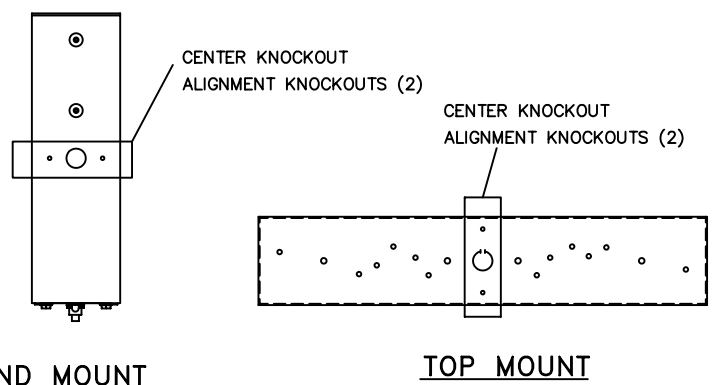

FIGURE 3
4. Remove appropriate knockouts for top or end mounting. (See Figure 3)
5. Mount canopy to exit frame using #6 alignment screws (2) provided.
6. Insert nipple into hole in canopy and exit frame and secure using (2) locknuts provided.
9. Mount exit assembly to mounting plate using #8 screws (2) provided.